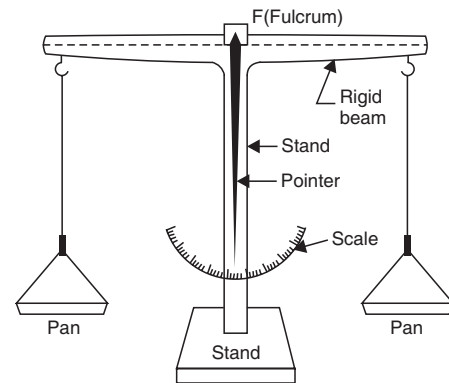

Fig. 3.22. The balance.
**3.10.2. The Balance.** Fig. 3.22 shows a common balance which is just a lever of the first type. It is device employed for weighing goods. It consists of a rigid beam having two scale pans suspended from each end. The beam can turn freely about a fulcrum  $F$  which is outside the beam but rigidly connected with it. A pointer is attached to the beam at its middle point  $M$ . A scale is also provided as shown in Fig. 3.22.